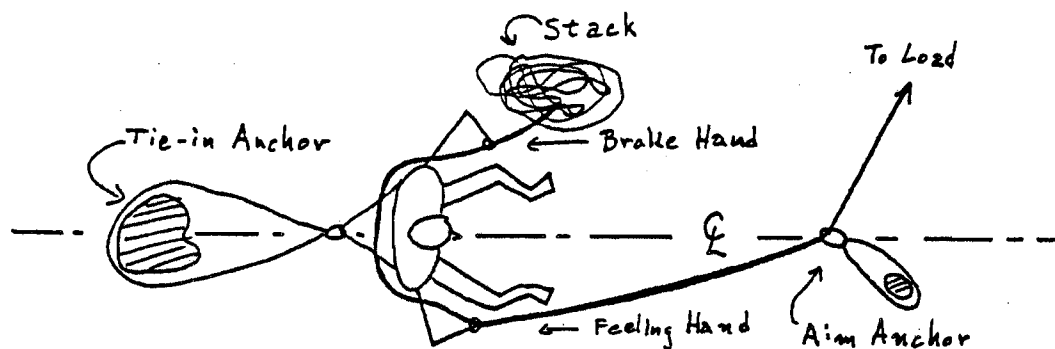

Figure 16. The Belay Stance.
3) The stance itself should be chosen carefully. Good footing is important in both seated and standing belays and the belayer must be colinear with the tie-in and the aim. The belayer should directly face the aim (see fig. 16). The rope passes across the